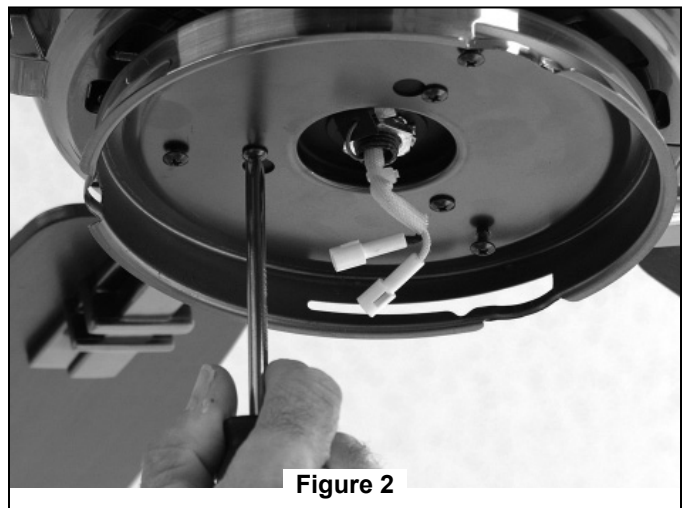
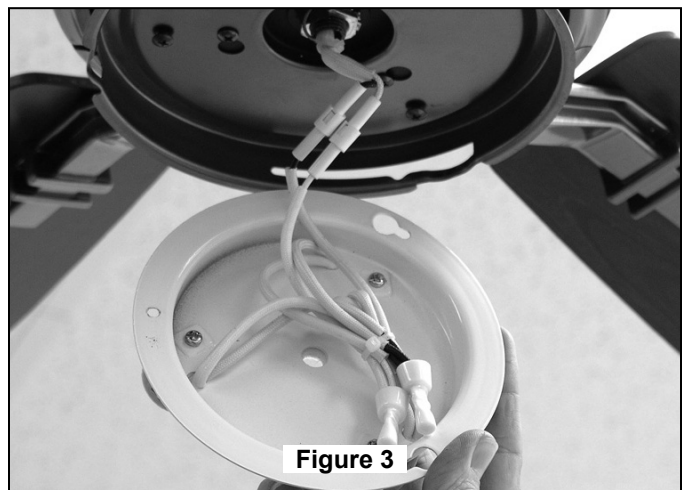

Figure 2
Figure 3
5. Route wires through Motor Coupling Cover (Fig 2) or the Decorative Sleeve (Fig 3) and through opening in Canopy. Position Canopy on fan shown with open side facing up. (Figure 4)
7. While pulling up on the hanger ball, securely tighten the two setscrews with nuts in the downrod support. (Figure 2 & 3)
8. Slide the Motor Coupling Cover (Fig 2) or the Decorative Sleeve (Fig 3) down until it touches the top of the Housing.
1. Securely attach the hanger bracket to the outlet box using the outlet box screws and washers supplied with the outlet box (Figure 2).
NOTE: Outlet box screws pass through slotted holes of the hanger bracket (Figure 2).
3. Carefully lift the fan and seat the downrod/hanger ball assembly on the hanger bracket that was just attached to the outlet box (Figure 3). Be sure the groove in the ball is lined up with tab on the hanger bracket (Figure 2).
- Slide Receiver Unit into the Hanger Bracket (Fig 2).
- Connect wires as indicated: (Figure 3)
1. Operating & Using Remote Transmitter (Figure 3): Install 9 volt battery (If not using for long periods of time, remove battery to prevent damage to transmitter). Store the transmitter away from excess heat or humidity.
4. With a Phillips screwdriver, tighten washer-head screws with fiber washers. Do not over-tighten. (Figure 2)
5. Attach assembled blades and blade holders to the motor hub using the provided screws with lock washers. (Figure 3)
2. Securely attach the Adapter Plate to the Support bracket and tightening three screws. (Figure 2)
3. Securely attach plugs from motor to sockets on Downlight Support Plate Assembly (Figure 3)